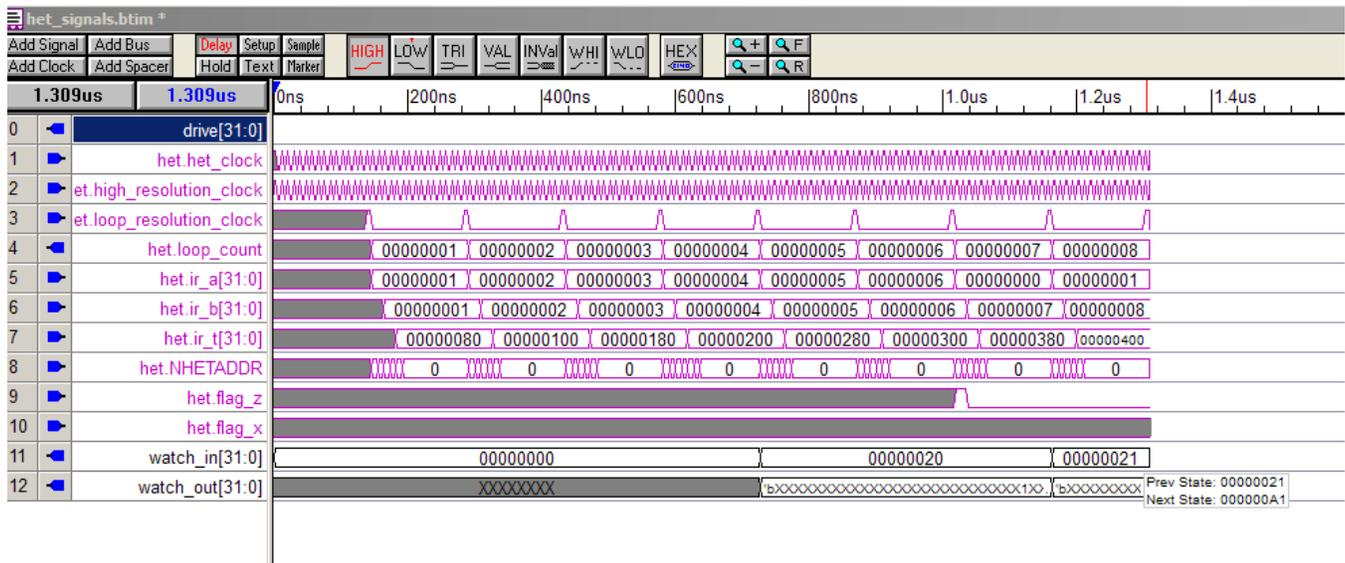

Figure 34. Stopped When Pin 7 Changes to 1 (watch_in[31:0] Changes From 0x21 to 0xA1)
11. Switch to the Waveform Viewer. Zoom full, then zoom out once, so that the end of the simulation can be seen within the waveform window. Hover the mouse pointer over the very last edge of the watch_in[31:0] bus. You will see that the value has changed from 0x21 to 0xA1 exactly where it was stopped with the breakpoint. The difference between 0x21 and 0xA1 is that bit 7 is set. Bit 7 contains the value for pin 7. This shows that the breakpoint has stopped the HET simulation when bit 7 became 1, as it was configured (see Figure 34).